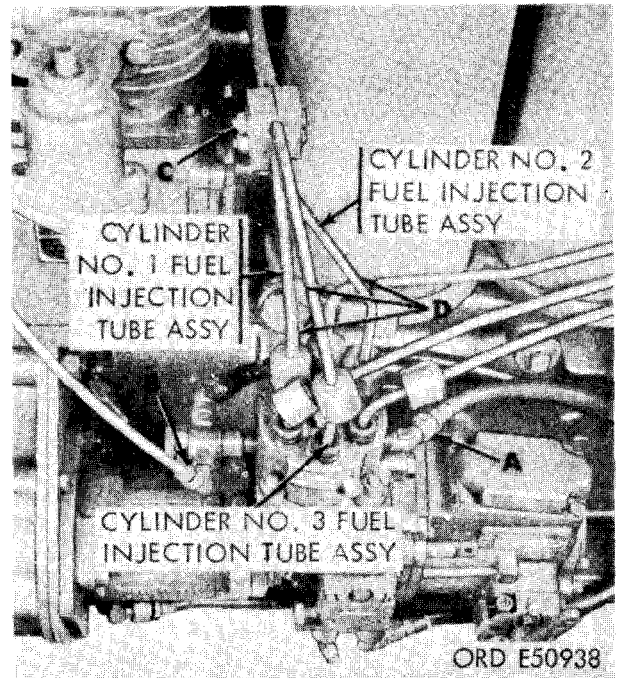

FIGURE 57. DISCONNECTING OR CONNECTING FUEL INJECTION PUMP FUEL HOSE AND CYLINDER NO. 1, 2, AND 3 FUEL INJECTION TUBES .
- (2) Figure 57. (A) Disconnect fuel injector supply-to-fuel filter outlet hose from 1/4 pipe x 3/8 tube elbow in injection pump hydraulic head. Cover the elbow opening and hose to prevent entrance of dirt. (B) Disconnect fuel return-to-fuel injection pump overflow valve tube from 1/4 tube x 1/8 pipe, 90 degree elbow. Cover the elbow opening and tube to prevent entrance of dirt. (C) Remove two 1/4-inch self locking nuts, 1/4-inch flat washers, and 1/4 x 3/8 cap screws securing inner clamp to outer clamp and remove clamps from injector tubes. (D) Disconnect cylinder No. 1, 2, and 3 fuel injection tube assemblies from fuel injection pump hydraulic head.